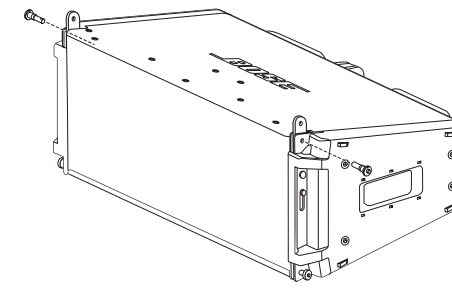

Fig. 1. Raise links on module.
7. Raise the links on module: Remove the pins, slide the link switch from the STOW position to the LINK position, and replace the pins. See Fig. 1.